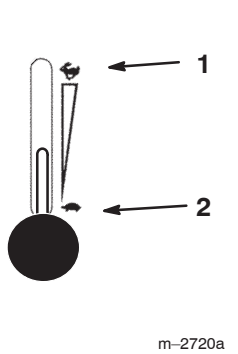

Figure 13
5. Move the throttle control to Fast before starting a cold engine (Fig. 13).
1. Push the PTO to Off (Fig. 13).
2. Move the throttle lever midway between Slow and Fast (Fig. 13).